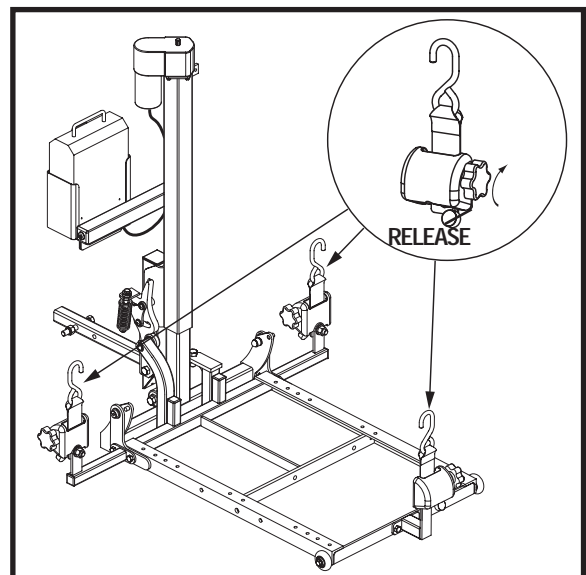

Figure 10. Retractable Tie-Down Straps
5. Secure the mobility device to the platform using either the retractable tie-down straps (see figure 10) for power chairs or the automatic lock-down arm for scooters.